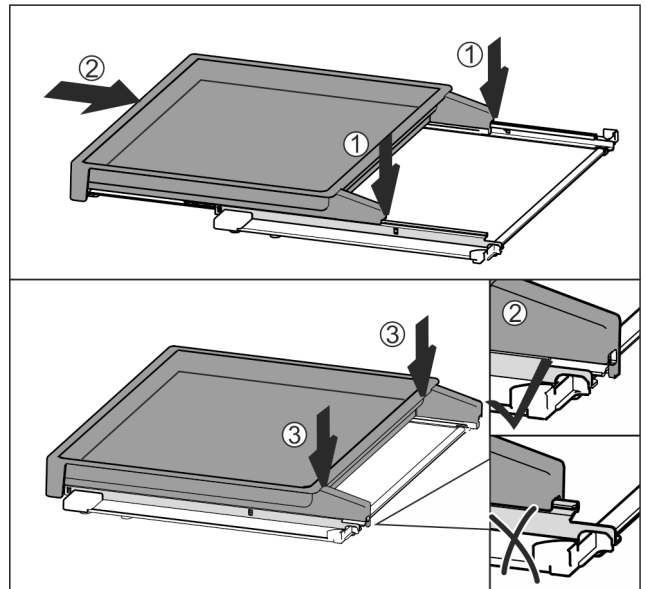

Fig. 175
- ▶ Place centrally on the rails Fig. 175 (1).
- ▶ Slide the pull-out board all the way in Fig. 175 (2).
- ▶ Press down at the back until it clicks into place Fig. 175 (3).